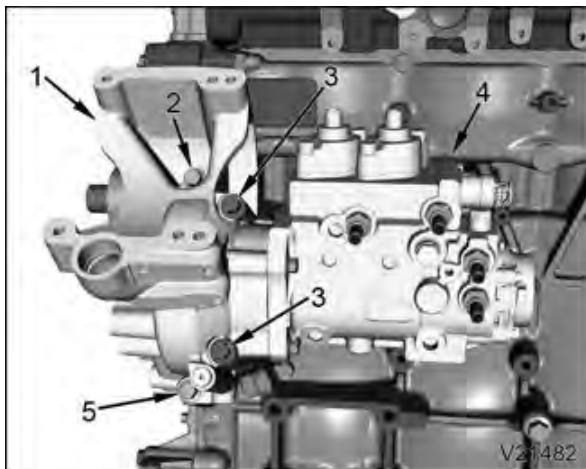

Figure 23. HP Fuel Pump and Drive Housing
10. Position HP fuel pump and drive housing assembly on crankcase using care to align pump drive gear with idler gear. Install M12 x 40, M12 x 90, and two M12 x 130 bolts and torque bolts to 77 lb-ft (105 N·m) (Figure 23).